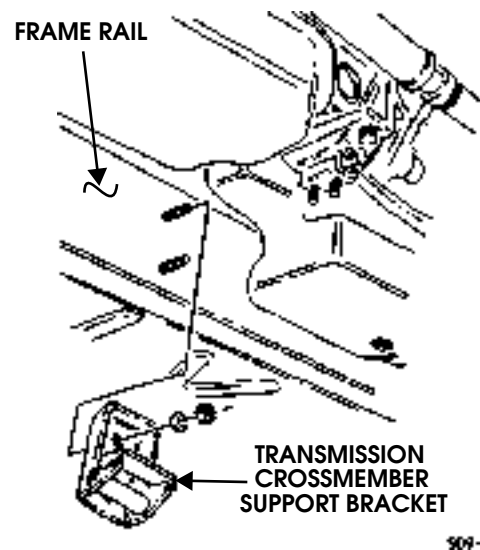

Figure 9-134: Transmission Crossmember Support Bracket Replacement
2. Remove two locknuts and washers securing transmission crossmember support bracket to frame rail (Figure 9-134).
1. Install transmission crossmember support bracket on two bolts and frame rail with two washers and locknuts. Tighten locknuts to 90 lb-ft (122 N•m) (Figure 9-134).